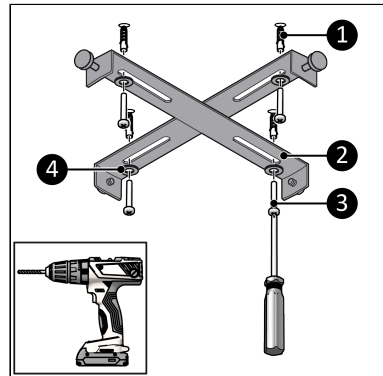

Figure 28.
7. Place the plugs in the four holes (Figure 28, pos. 1).
8. Use the Phillips screws (Figure 28, pos. 3) and the rings (Figure 28, pos. 4) to attach the suspension bracket (Figure 28, pos. 2) to the ceiling.